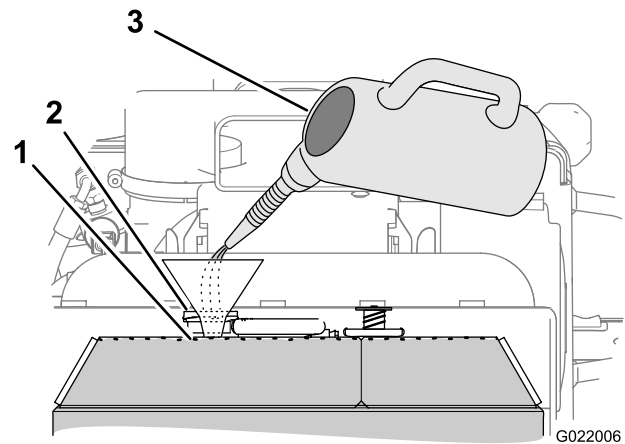

Figure 82
3. Fill the cooling radiator with the specified coolant mixture until the fluid level is up to the top of the filler neck (Figure 82).